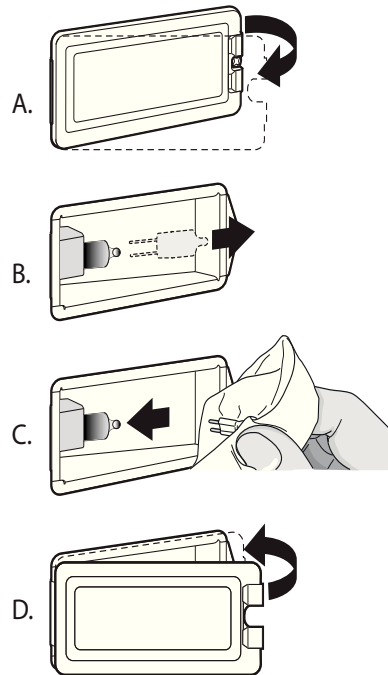

Figure 42: Bulb Replacement
3. Slide the tip of a flat blade screw driver between the fixing clip and the lamp housing (*Figure 42, A*).
6. Remove the bulb by grasping and sliding the bulb straight back until the two prongs have cleared the ceramic holder (*Figure 42, B*).
8. Press down to seat the bulb (*Figure 42, C*).
9. Slide the protective lens into the holder clip and push the other end until the fixing clip snaps back into the housing (*Figure 42, D*).